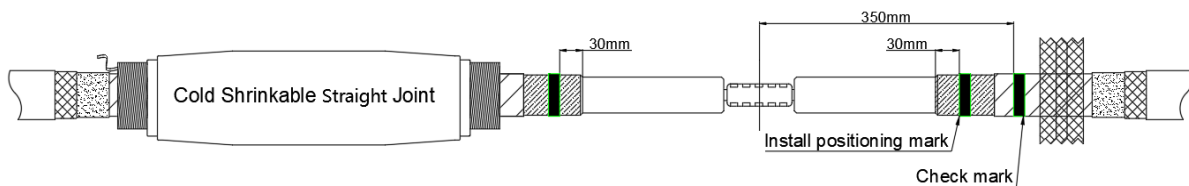

Fig.5
- Measure 350mm from 1/2 of the length of the B after crimping, and make a mark (Fig 5).